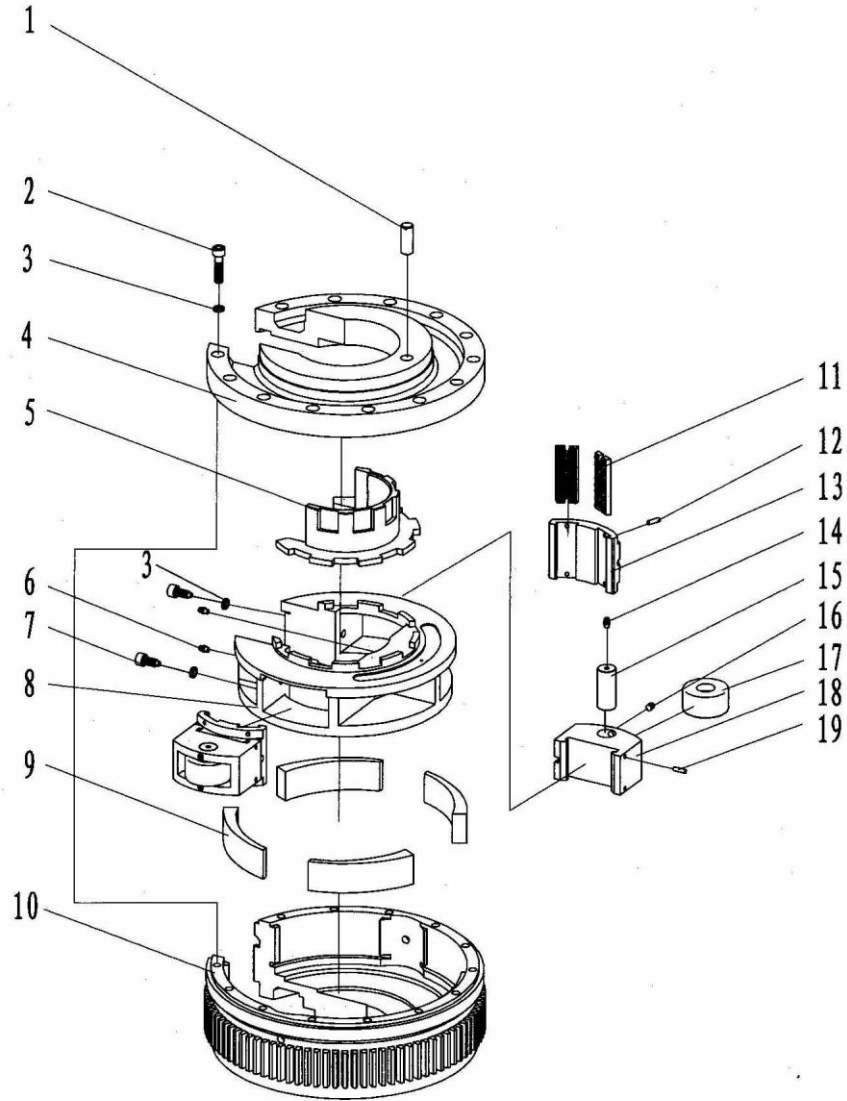

Fig.21
11.4 Tong head assembly and parts list (Fig.21, Table 8)